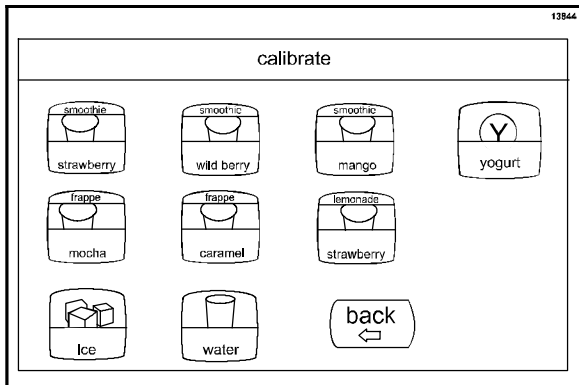

Figure 143
- The Calibrate screen will display. (See Figure 143.)